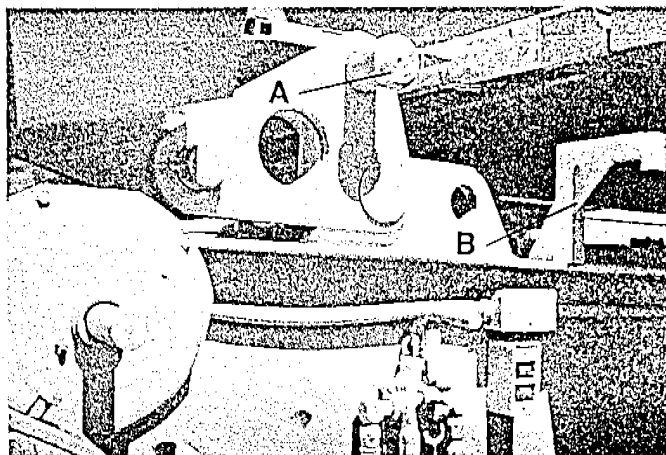

Fig. 11
replace the pins (a) in the top holes of the triangular hinges. Snap key in place from behind the hinges. (Fig. 11)
- (1) Unload the platform floor section that is stored closest to the control console first. Install this section next to the gooseneck.
- (2) A mounting bracket (b) is located on the trailer frame, just behind the gooseneck triangular hinge. (Refer to Fig. 11)